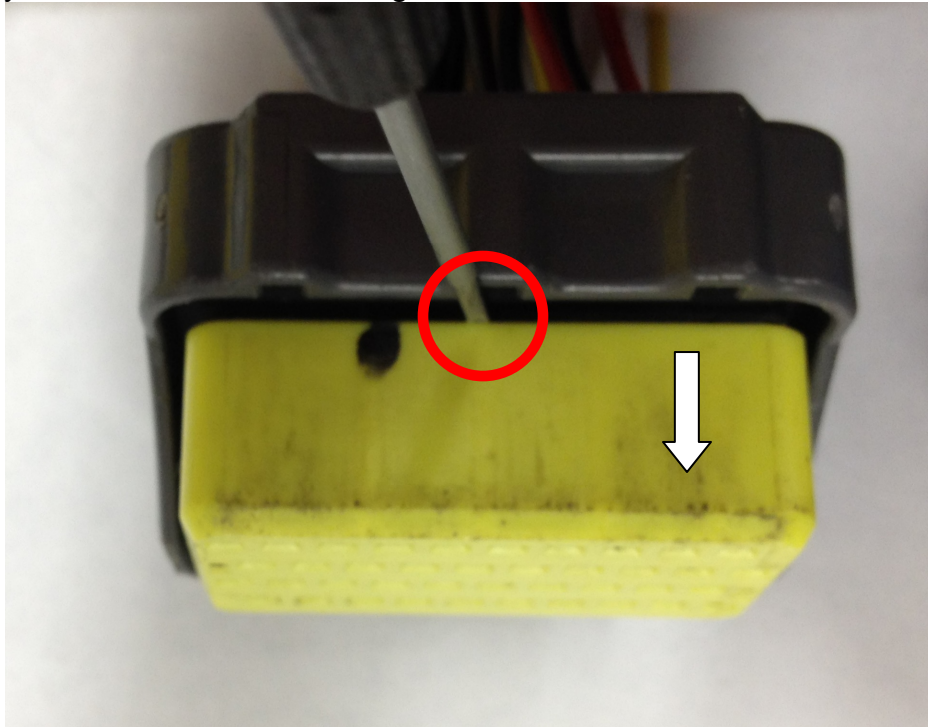

Figure 2: Pry in this area to remove cover
1. Locate a small screwdriver (a precision 1.5mm wide flathead screwdriver is recommended) and carefully pry yellow plastic retainer using both slots in the retainer so it disengages vertically about 1mm as shown in figure 2: